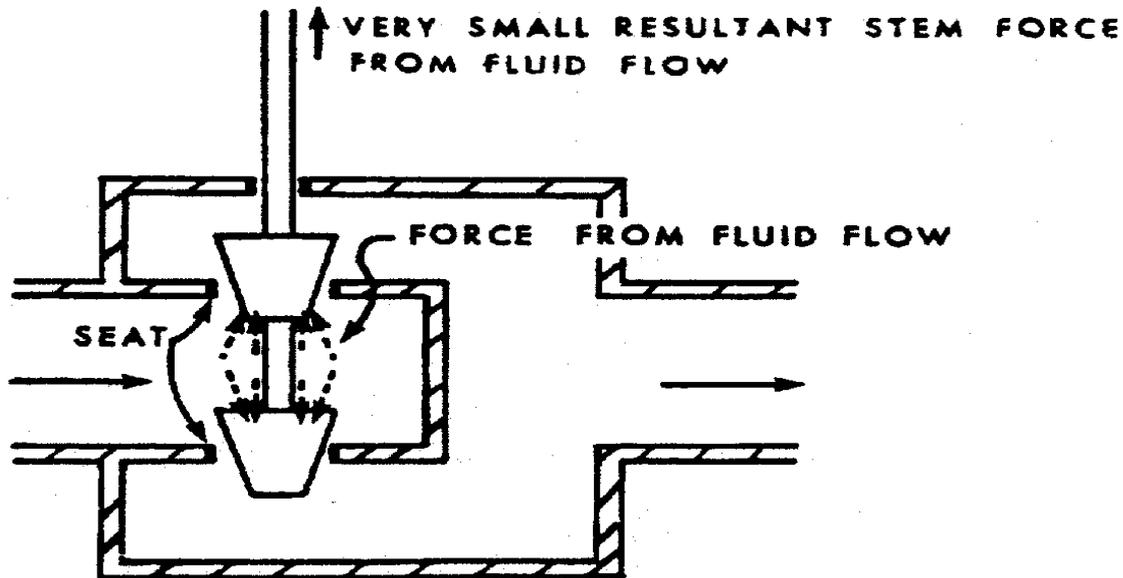

Figure 16: Double Seated Globe Valve.
- When there are two plugs as shown in Figure 16, it is called a **double-porting** globe valve.